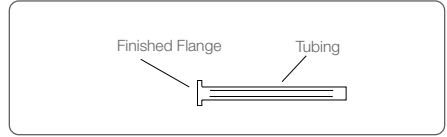

Figure 5. Finished flange.
7. Your finished flange should look like Figure 5.